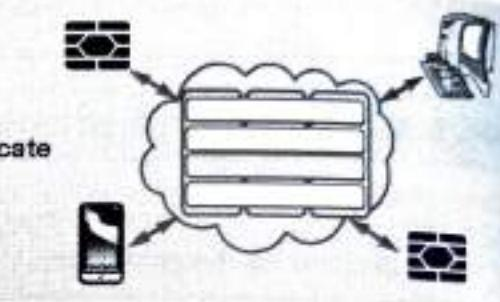

Fig. 2.3.1 : Main Element of the one M2M IoT architecture
- The oneM2M architecture divides IoT functions into three major domains as shown in Fig. 2.3.1.
- This domain includes the application layer protocols and attempts to standardize northbound API definitions for interaction with Business Intelligence (BI) Systems.